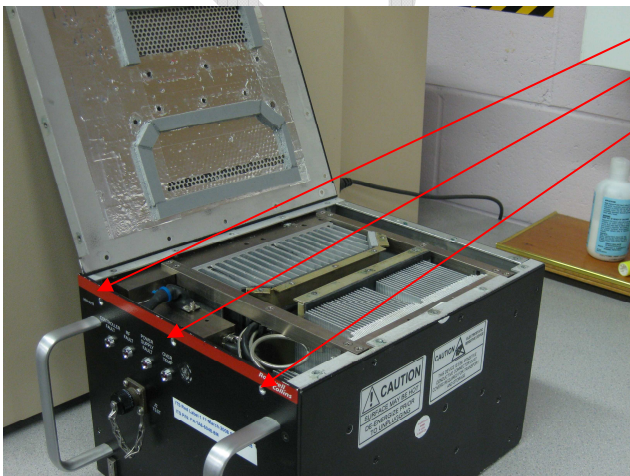

Figure 5.2 HPA with Removed Lid
- Remove top three screws from the front panel as shown on the Figure 5.2.